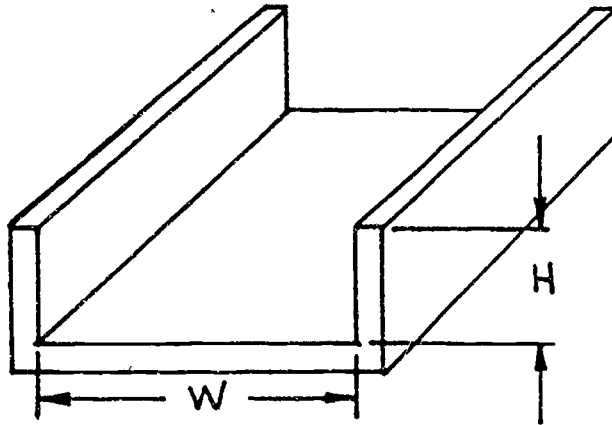

Figure 4: Find inside width and height.
10. Your boss wants you to machine a channel as shown below in Figure 4. The inside cross sectional area is to be 3 square inches. The inside width of the channel is to be 12 times the inside height of the channel. What are the dimensions of the inside width and the inside height?